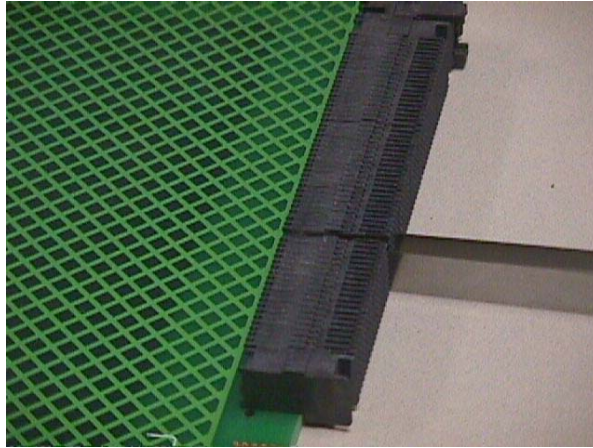

Figure 15
- Step 3 Place shims along the outside of the wafers being replaced. The shims should be inserted to a minimum depth of 8mm from the mating interface. See Figure 15.